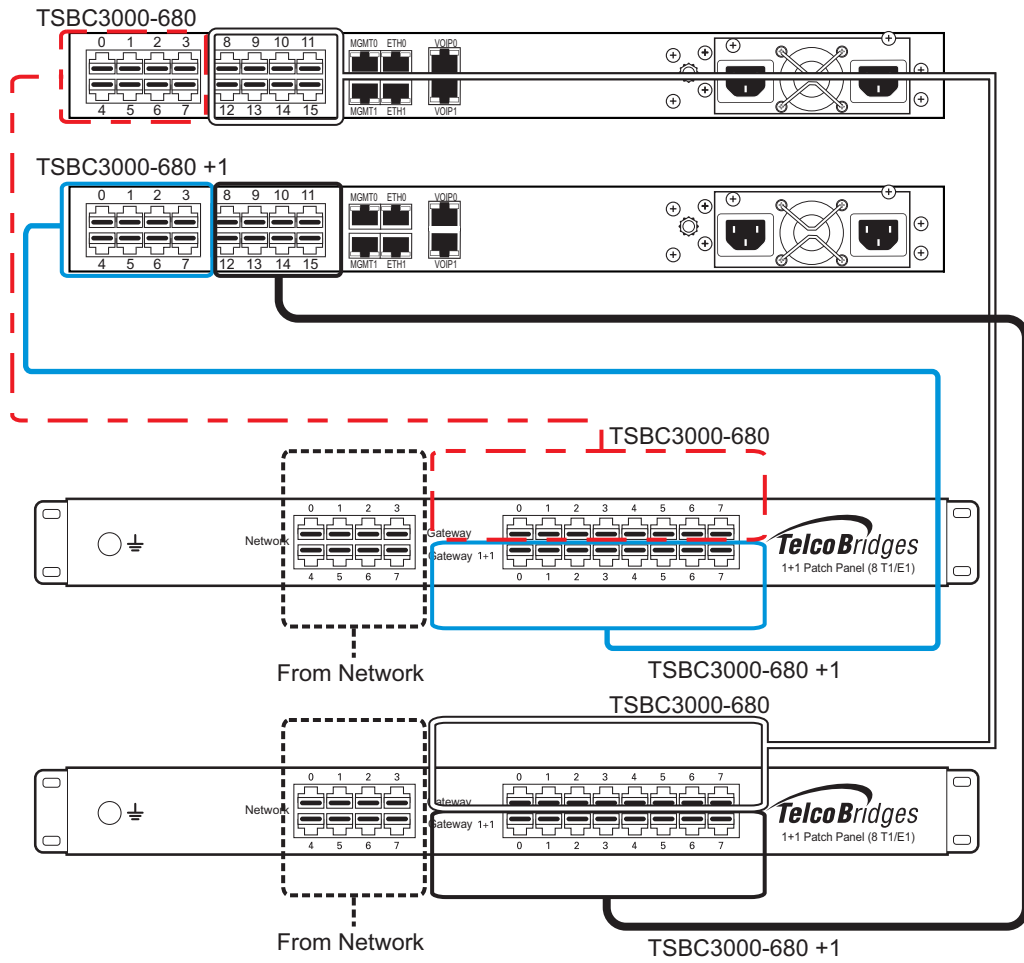

Figure 2.11 TSBC3000-680/TSBC3000-680 +1 connecting to the 1+1 patch panels (8/T1/E1)
1. Connect T1/E1 lines 0-7 of the Network section of the patch panel to the remote equipment. See figure 2.11 on page 28.